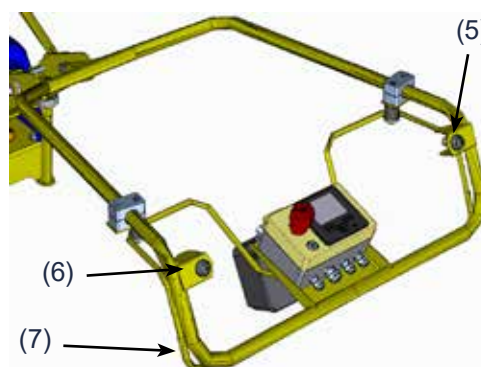
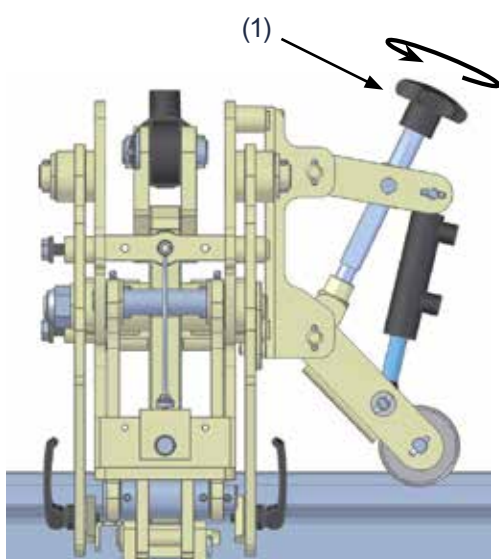

Fig 81.
Fig 82.
5. Activate the dead man's grip (7), Fig 81. check that the de-clipping shoes are in the right height relative the clip. This depends on the type and dimension of the current rail. If necessary, adjust the height of the work head with the adjustment screw (1) Fig 82 on the sleeper lifter. There should be a gap of about 5 mm between the tip of the de-clipping pad and the foot of the rail.
7. Start de-clipping in manual mode by pressing the button (6) Fig 81.
8. Run the de-clipping until the reference arms (4) close. The four reference plates (5) should now fit the profile of the lower parts of the head of the rail. Adjust if necessary.
1. Open the arms by pressing button (5), Fig 81.
7. In manual operating mode, run the de-clipping sequence by pressing the button (6) Fig 81.